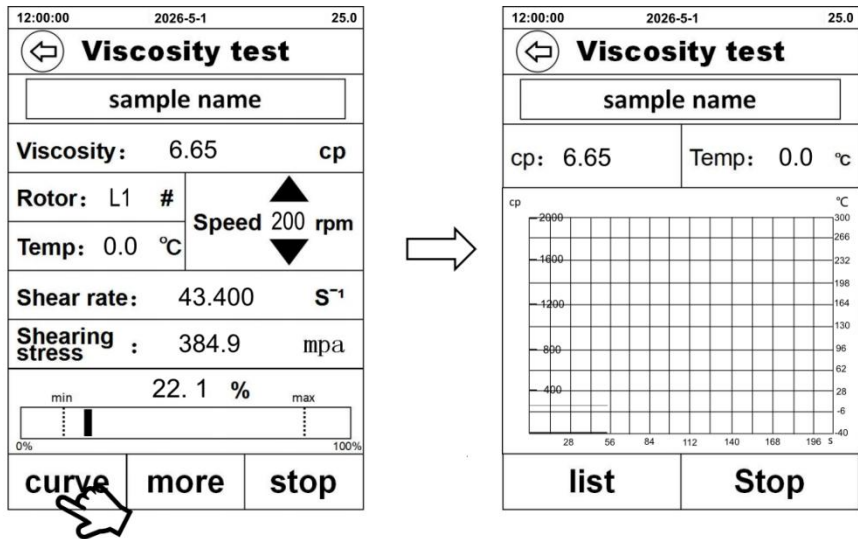

Fig. 9
4) Curve display: Click "Curve" during testing to switch from list to coordinate system display(Fig.9). Click the icon in the upper left or "List" to return.